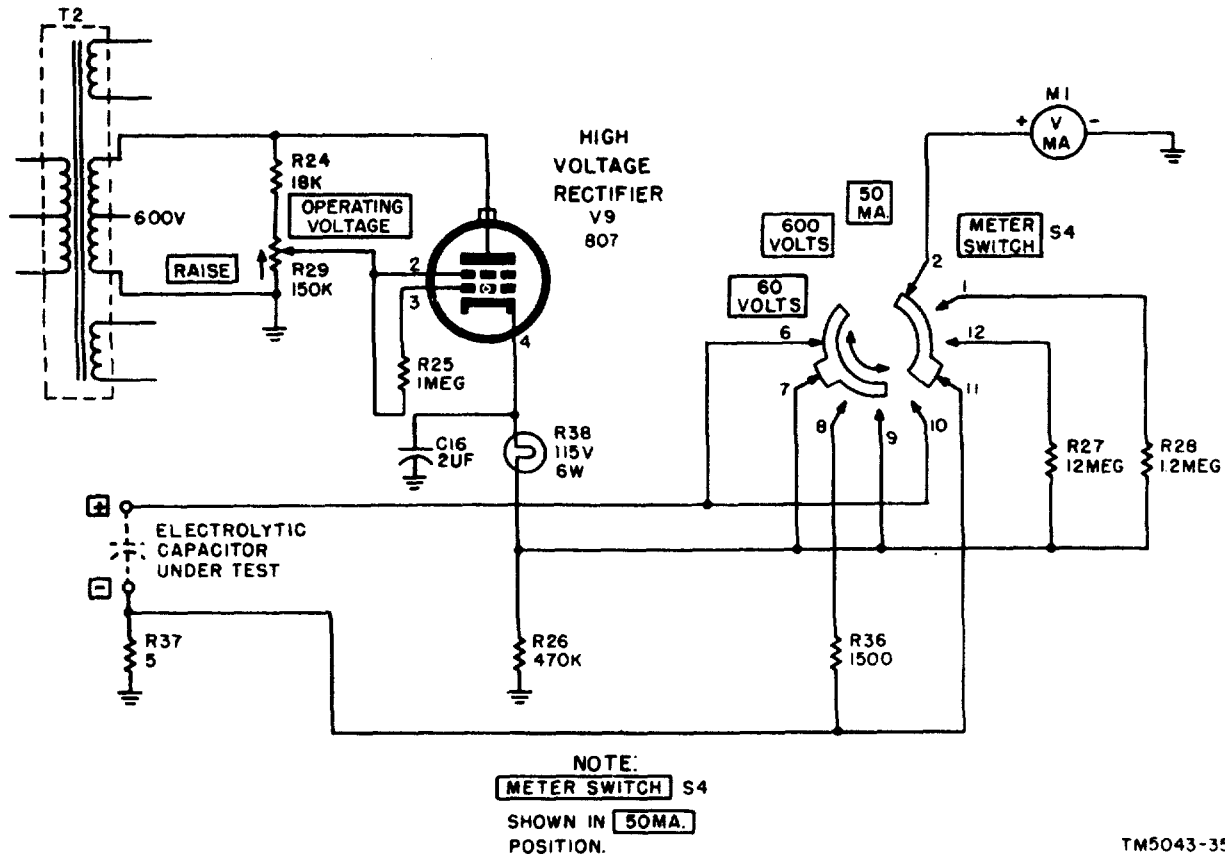

Figure 2. Leakage current circuit, simplified schematic diagram.
(figs. 2 and 23)
a. *High Voltage Rectifier*. With SELECTOR switch S2 in the LEAKAGE position, high voltage rectifier V9 (tube type 807) is connected as a half-wave rectifier (fig. 23). The plate of high voltage rectifier V9 is connected to one side of the high voltage winding of transformer T2; the other side of the high voltage winding is grounded. Resistor R24 and OPERATING VOLTAGE potentiometer R29 are connected in series with each other and in parallel with the high voltage winding of transformer T2 (fig. 2). The arm of potentiometer R29 is connected directly to the screen grid and through resistor R25 to the control grid. The setting of potentiometer R29 determines the amount of voltage applied to the control grid and the screen grid. The voltage applied to the screen grid and the control grid determines the output voltage of high voltage rectifier V9. Resistor R24 limits